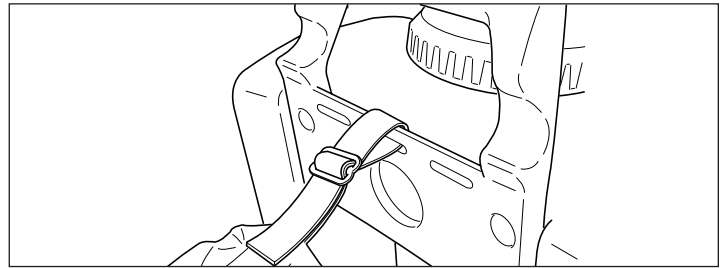

Figure 3. Install Shoulder Straps to Carry Handle
3. Install the single strap of the shoulder straps through the center slot of the carry handle. Pull the strap over the bar and secure through the buckle. See Figure 3.